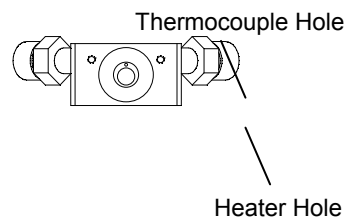

Figure 13 • Installing the Heating Cartridge and/or Thermocouple
- If replacing the thermocouple, slide the old thermocouple out of the HVC. Then insert the new thermocouple into the small hole (see Figure 13) as far as it will go.